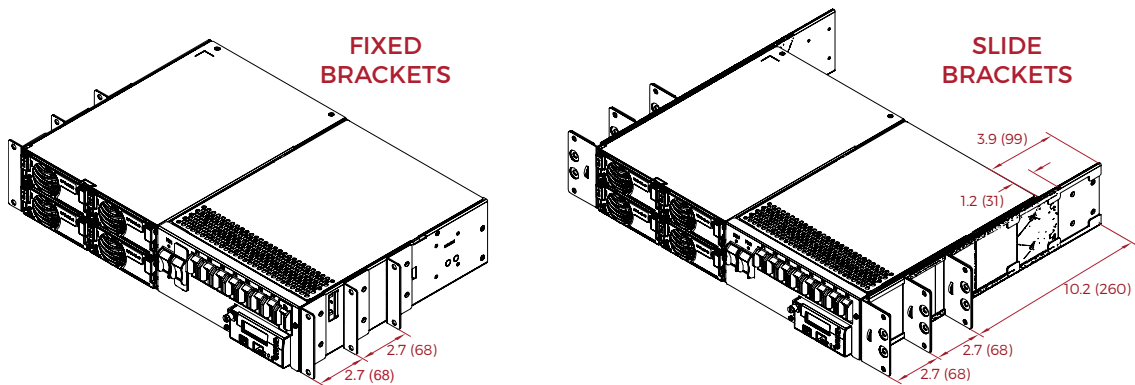

Figure 4-1 System Mounting
1. Determine the installation position according to the subrack measurement. If necessary, fix the mounting bracket in a different position, see Figure 4-1. (The default position of mounting brackets is 19" rack width, front mount.)